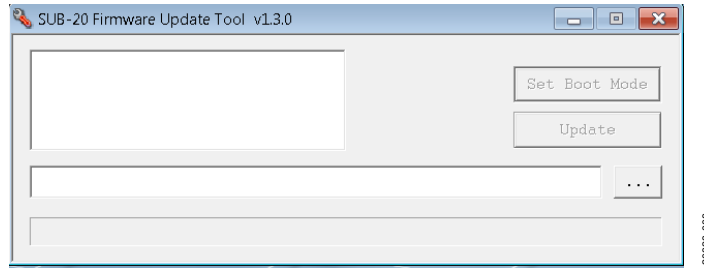

Figure 17. GUI for Updating the SUB-20 Firmware
1. Double click the SUB-20 firmware updater.exe file installed on the PC after the SUB-20 adapter is connected to open the graphical user interface (GUI) shown in Figure 17.
2. For Windows® 10, Figure 17 may open automatically to update the SUB-20 adapter without having to double click the **SUB-20 firmware updater.exe** file. Click the **Update** button. For Windows 7 and earlier versions, users may not need to update the SUB-20 adapter.